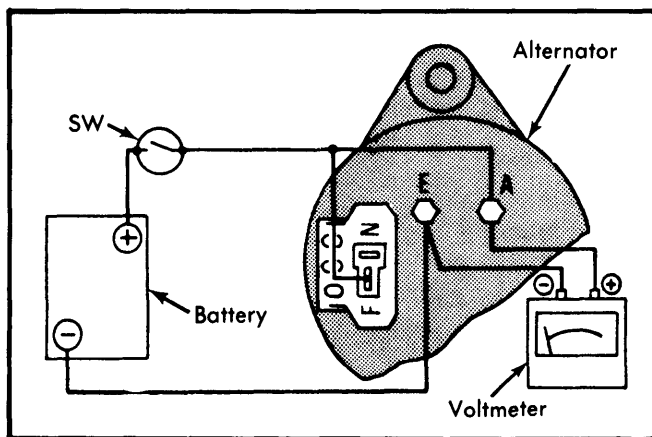

Fig. 3 Alternator Testing Connections for Subaru
**Subaru Models** – 1) Connect a voltmeter and leads to battery as shown in Fig. 3. Operate the alternator and turn off the switch "SW" when alternator speed reaches approximately 800 RPM. Increase speed in small increments while watching voltmeter deflection and read alternator speed when at 14 volts. Speed should be approximately 1000 RPM.